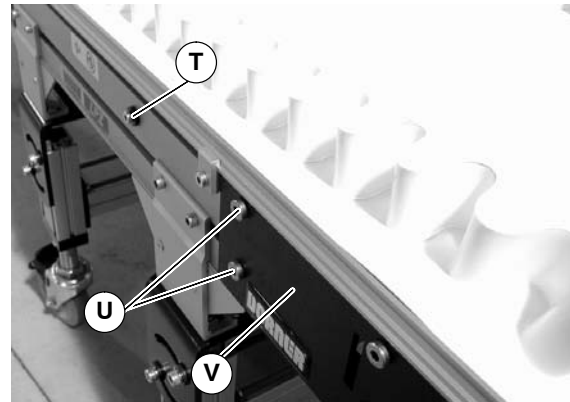
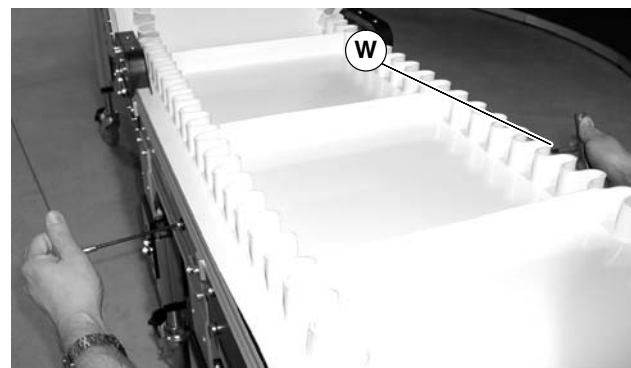

Figure 37
Figure 38
1. On tension end of the conveyor, identified by the pinion locking screw (T of Figure 37), loosen the two tail clamp bolts(U), on both sides of conveyor.
2. With 5mm hex wrench, hold pinion torque screw (W of Figure 38). Loosen the pinion locking screw (T of Figure 37) and turn the pinion torque screw(W) to extend head plate assembly.
4. After adjusting proper tensioning, tighten the pinion locking screw (T of Figure 37) to 69 in-lbs (7.8 N-m), and tighten tail clamp bolts (U of Figure 37) on both sides of conveyor to 146 in-lb (16.5 N-m).
1. Ensure tensioning racks are extended and touching the idler pulley headplates: loosen the pinion locking screw (T of Figure 37) and rotate the pinion torque screw (W of Figure 38) clockwise until contact with the head plate is made, then tighten the pinion locking screw (T) to 69 in-lbs (7.8 N-m)